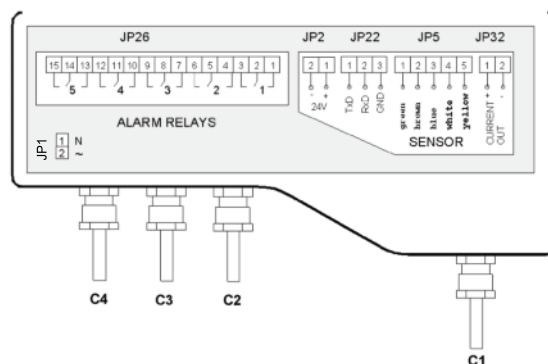

Figure 11: Electrical Unit Using Glands/Conduits
2. Connect the relay cable wires to the appropriate posts, as shown in Figure 11: Electrical Unit, page 5.